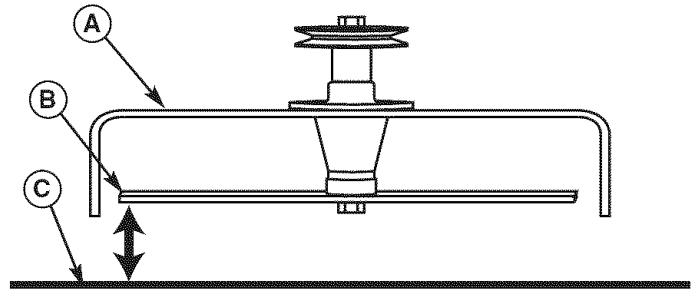

Figure 33. Measure Blade Tips to Ground
5. Measure the distance between the tips of the outside blades and the ground (Figures 33 & 34). If there is more than 1/8" (3mm) difference between the measurements on each side, proceed to step 6. If the difference is 1/8" (3mm) or less, proceed to Front To Back Leveling.
1. Turn the blades front-to-back as shown in Figure 36. Measure the distance from the ground to front tip of center blade, and from ground to rear tips of left hand and right hand blades (Figures 33 & 36). Front tips should be 1/8"-1/4" (3-6 mm) higher than rear tips. If not, proceed to step 2.